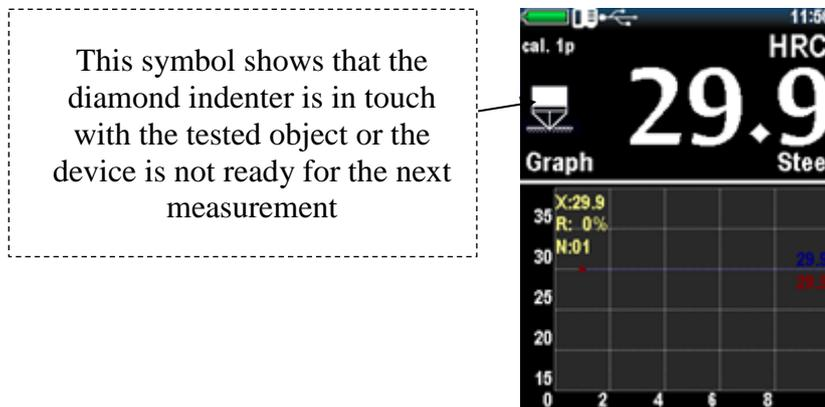

Figure 2.10 – The display after measurement
- The display shows the value of hardness (Figure 2.10). The measurement result is displayed on the display until the next measurement.